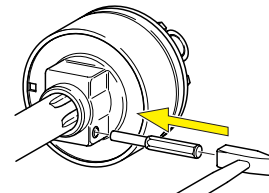

Fig. 4-35
2. Use a hammer and punch, if needed, to moderately hit the end of clamping cone/retaining bolt, as shown. (FIG. 4-35)